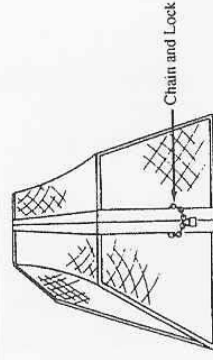

Figure 4 : Join Goal Faces and Lock Together Using Chain and Lock
2. Take the appropriate steps to secure goals such as - place the goal frames face to face and secure them at each goalpost with a lock and chain (figure 4).
- Anchor or chain goals not in service face to face or secure structure (figure 4).